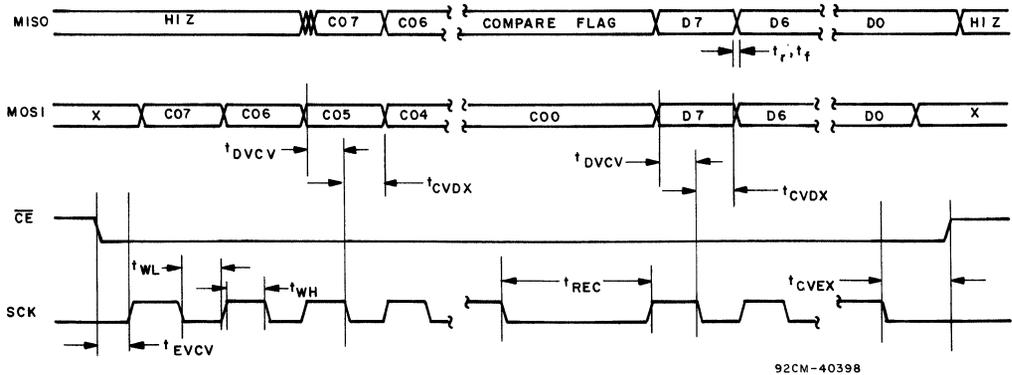

Fig. 8 - Write cycle timing waveforms.
**DYNAMIC ELECTRICAL CHARACTERISTICS - BUS TIMING**  $V_{DD} \pm 10\%$ ,  $V_{SS} = 0$  V dc,  $T_A = -40^\circ$  to  $+85^\circ$  C,  $C_L = 200$  pF. See Figs. 8 and 9.